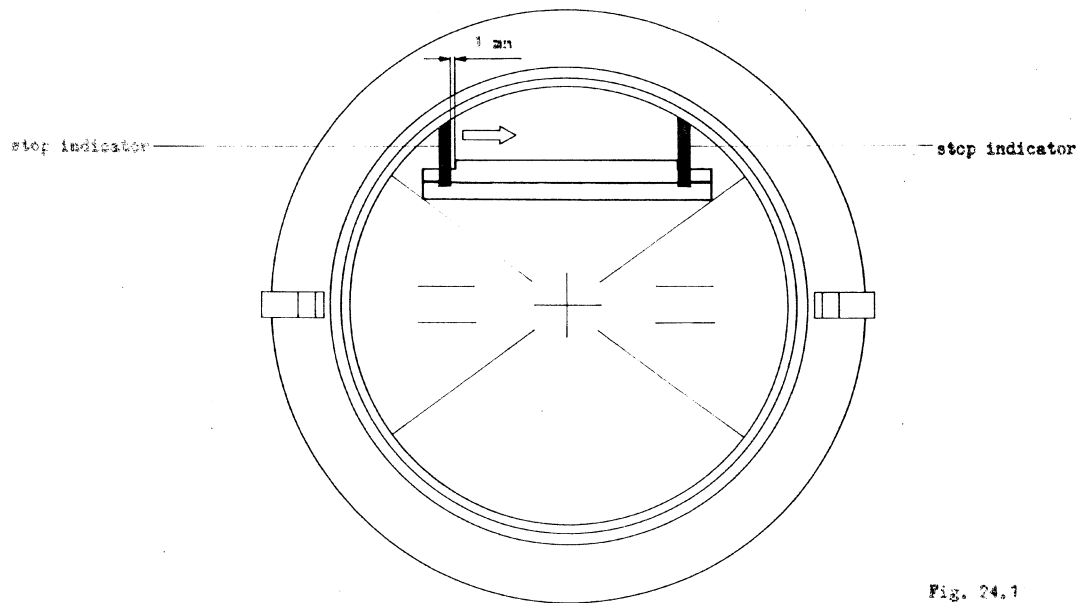

Fig. 24.1
The projected stop indicator appears in the left top of the groundglass screen and must be in the position shown in Fig. 24.1.
- 7.3 Insert the tips of forceps in the two centres with sockets with four soldering lugs in the two left-hand holes (see Fig. 19.1). The stop indicator moves to the right (see Fig. 24.1).
Compare the position of the stop indicator with Fig. 24.1.